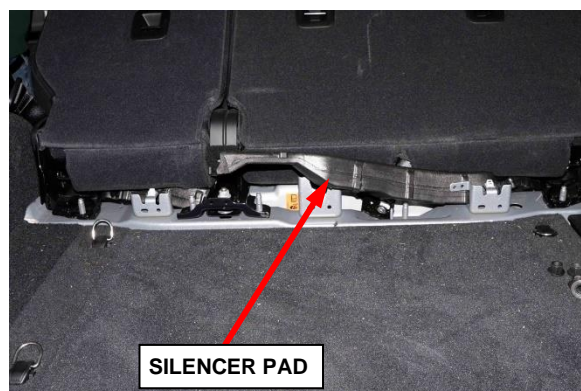

Figure 22 – Silencer Pad
35. Remove silencer pad (Figure 22).
53. Install the silencer pad (Figure 22).